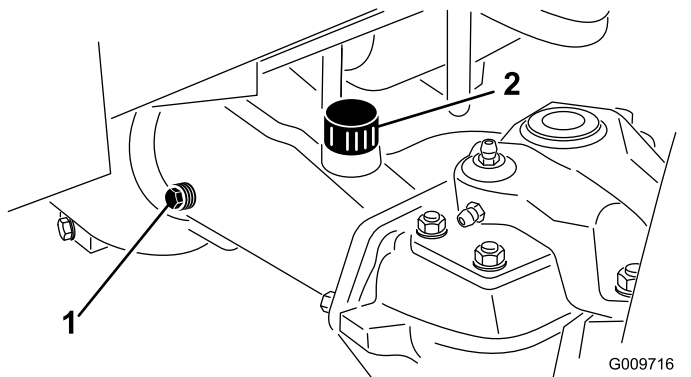

Figure 72
- Remove a check plug from 1 end of the axle (Figure 72) and make sure that the oil is up to the bottom of the hole. If the level is low, remove the fill plug (Figure 72) and add enough oil to bring the level up to the bottom of the check-plug holes.